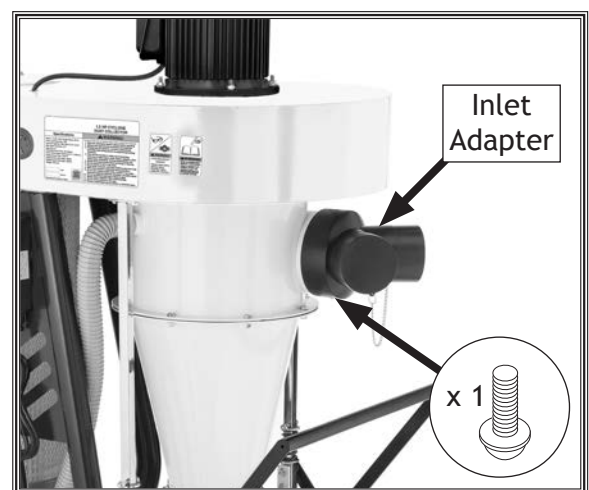

Figure 31. Inlet adapter installed on dust port.
35. Install inlet adapter on dust port and secure with 10-24 x 3/8" flange screw (see **Figure 31**).